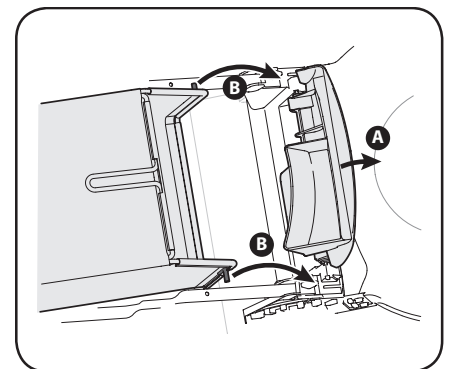

Figure 2-7
- Follow steps below to attach grass catcher to mower. See Figure 2-7.